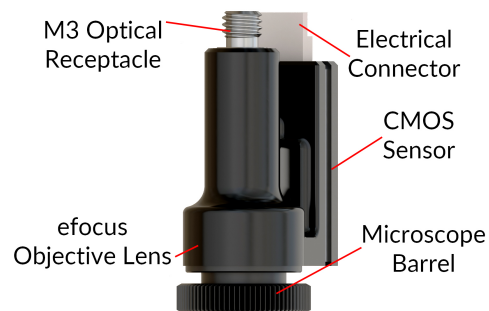

Figure 2.1: *Twist-on efocus microscope body*
- The **M3 Optical Receptacle** (Fig. 2.1) is used to receive light from a chosen light source using a fiber-optic patch cord.
- The **Electrical Connector** (Fig. 2.1) sends and receives electrical signal for the microscope using a 12-pin electrical connector.
- The **Twist-on Connection System** allows the removal of the microscope body from the imaging cannula between each imaging session without affecting image position. The **Microscope Barrel** (Fig. 2.1) secures the microscope on a *Twist-on Imaging Cannula* (see 3.14, and *Imaging Cannula Implantation & Microscope Installation for eTFMB / eTOSFM application note* for more information on the microscope clamping procedure).
- The **CMOS Sensor** (Fig. 2.1) captures fluorescence images. Each *Microscope Body* has a serial number stored in memory that links each microscope to a specific set of mask correction filters associated with its **CMOS Sensor** that must be installed before use.
- The **efocus Objective Lens** (Fig. 2.1) transmits the image from the **Imaging Cannula** to the **CMOS Sensor**.